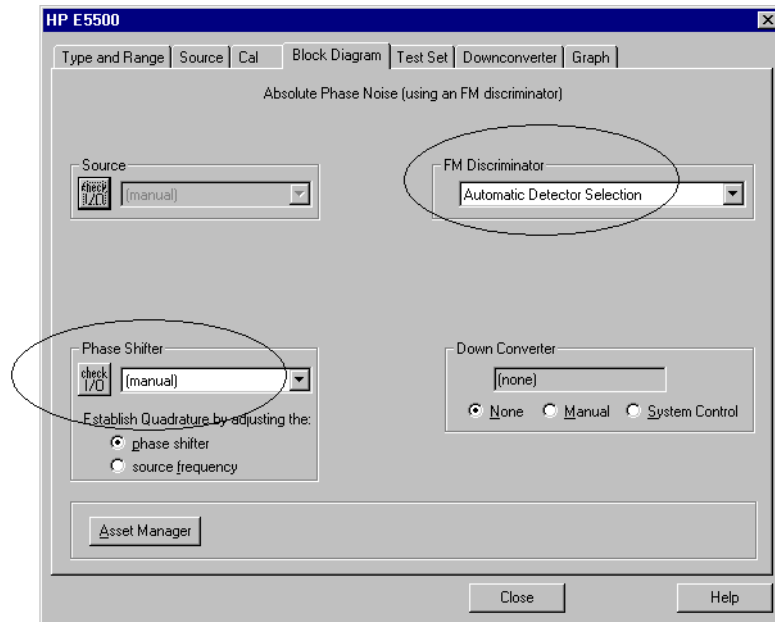

Figure 11-23 Enter Parameters in the Block Diagram Tab
- 11 Choose the **Block Diagram** tab from the **Define Measurement** window. See Figure 11-23.